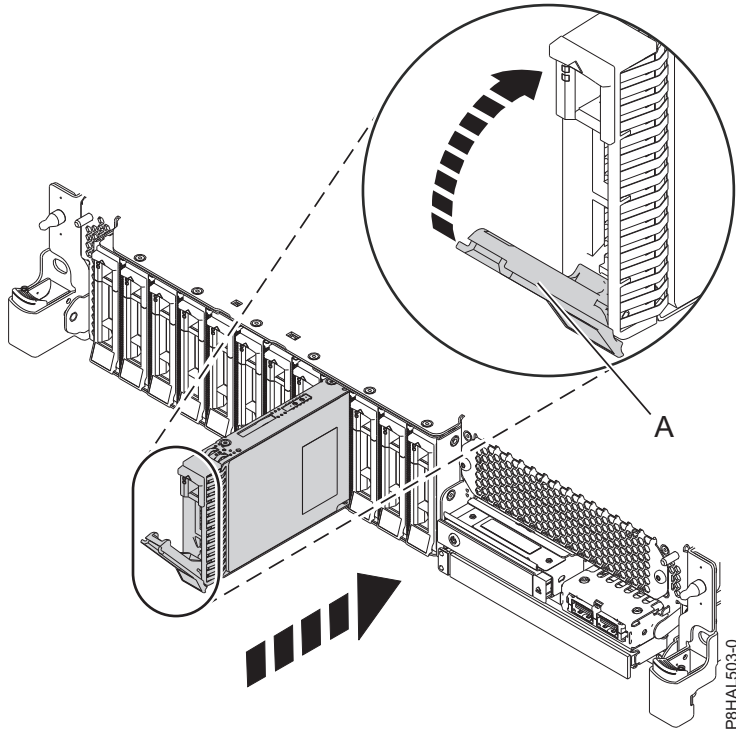
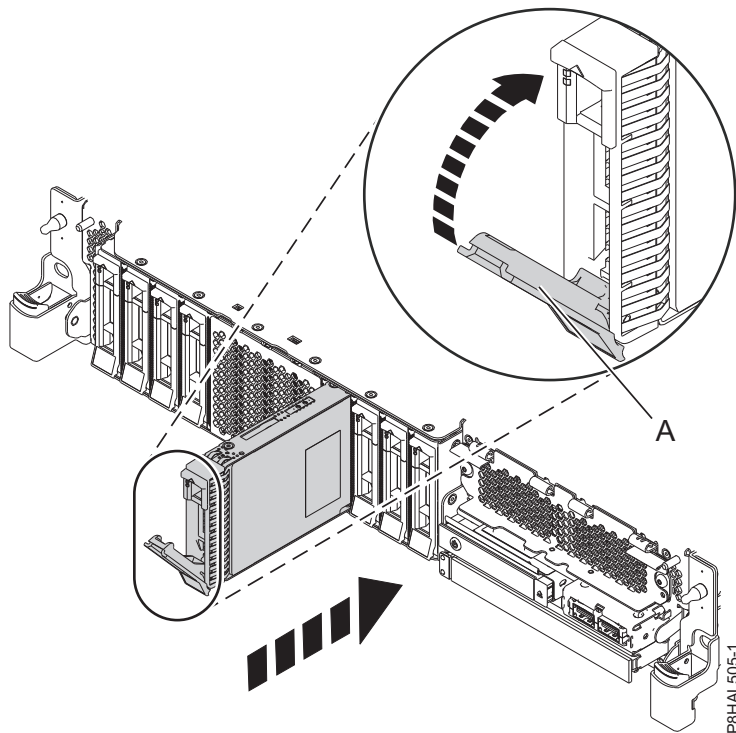

Figure 66. Replacing a disk drive in a base function system
Figure 67. Replacing a disk drive in an expanded function system
4. Unlock the drive bay handle (A) by pressing it and pulling it out toward you. If the handle is not all the way out, the drive does not slide into the system. See Figure 66 on page 68 and Figure 67 on page 68.
9. When the identify LED turns on solid, slide the drive all the way into the system, and push in the drive handle (A) until it locks, as shown in Figure 66 on page 68 and Figure 67 on page 68.